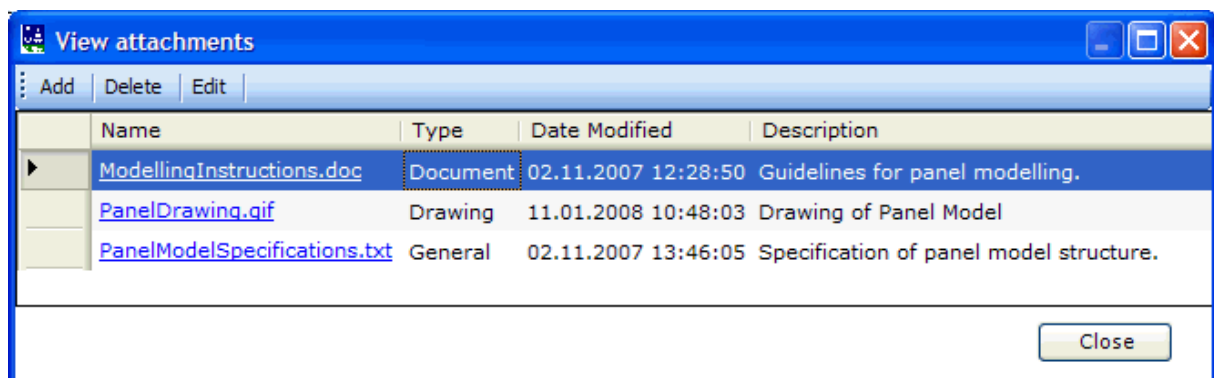

Figure 3.20 The View attachments dialog – click on link to view attachment.
- **View attachments** – The ‘View Attachments’ dialog is opened when the corresponding button is pushed (see Figure 3.20). The dialog shows links to attachments. Attachment is opened in the associated editor when a link is clicked. Links to new attachments may be added and existing links may be modified or deleted. See section 3.8 for a more detailed description.